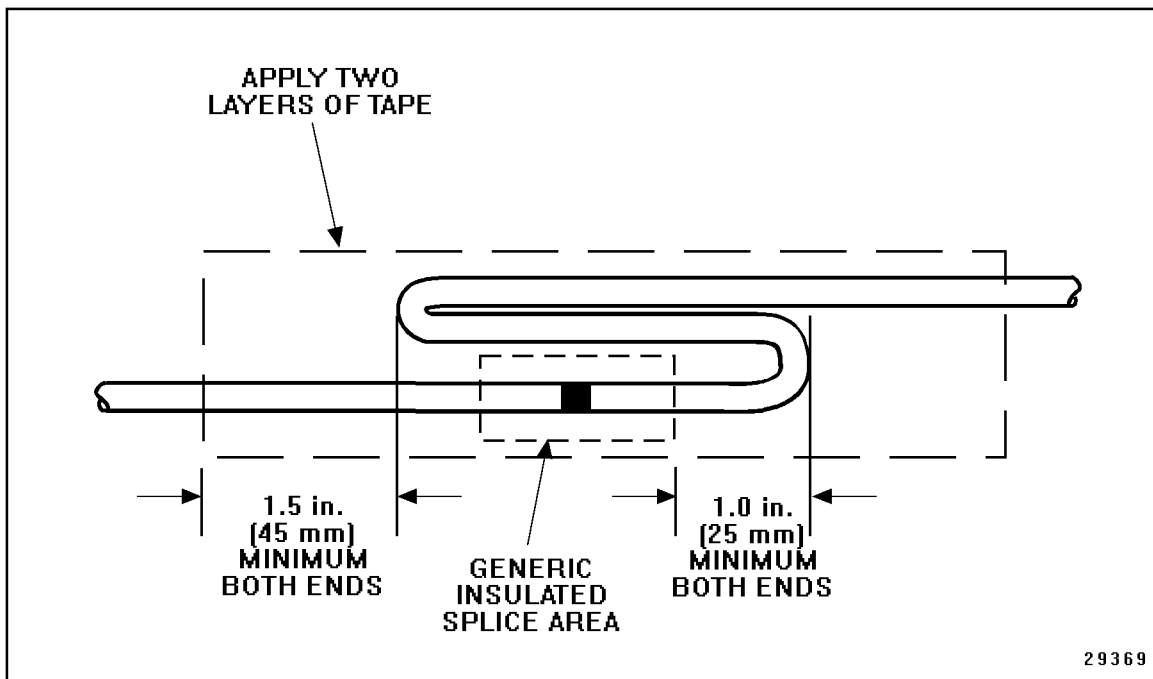

Figure 3-61 Recommended Strain Relief of Spliced Joint
5. Loop the lead back over the spliced joint and tape. See Figure 3-61.
8. Loop the lead back over the spliced joint and tape. See Figure 3-61.
9. Loop the lead back over the spliced joint and tape. See Figure 3-61.